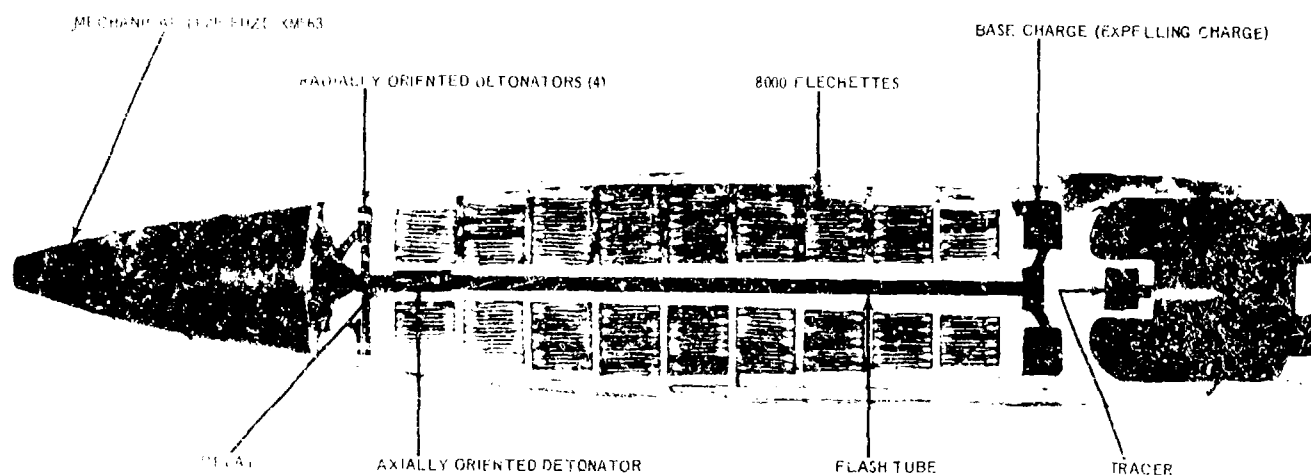

Figure 11-6. APERS M546 flechette (Beehive) round.
(1) *APERS M546 (flechette) round.* The APERS M546 flechette round, commonly referred to as the Beehive round (fig 11-6) is intended primarily for antipersonnel use at close and long ranges. It is effective against personnel in the open or in dense foliage. The projectile consists of a two-piece aluminum body, an aluminum fuze adapter, and a hollow steel base. The fuze adapter, which is threaded to the body, contains four radially oriented detonators, a flash tube, a relay, and an axially oriented detonator. A central steel flash tube extends from the projectile base to the detonator in the fuze adapter. The projectile body is loaded with 8,000 8-grain steel flechettes (darts). A mechanical time fuze is assembled to the projectile. On firing, the fuze starts to arm immediately and will function as set: either on leaving the cannon muzzle (called muzzle action (MA)) or at a preset time. When the fuze functions, the four radially oriented detonators, the smoke marker pellet, and the axially oriented detonator and relay in the fuze adapter are activated. The explosive force of the radially oriented detonators rips open the forward skin of the projectile ogive and the flechettes in the forward section of the projectile are dispersed by centrifugal force. At the same time, the axially oriented detonator and relay cause a flame to flash down the flash tube and ignite the base expelling charge. The pressure built up by the burning of the base expelling charge forces the flechettes and black marker dye in the rear of the projectile forward and out of the projectile.